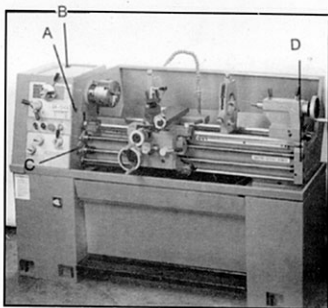
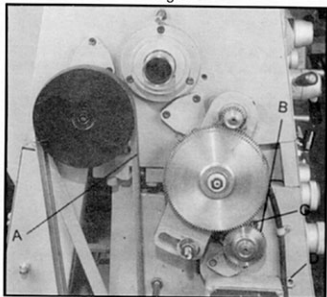

Fig.3
Fig.4
- 1. Headstock**-Oil must be up to indicator mark in oil sight glass (A, Fig.3). Top off with Shell Turbo T-68 or equivalent. Fill by pulling plug (B, Fig.3). To drain, remove drain plug (A, Fig.4) with an 8mm hex wrench. Drain oil completely and refill after the first three months of operation. Then, change oil in the headstock annually.
- 2. Gearbox Input Shaft**-Remove end gear cover and oil the gearbox input shaft where it exits the headstock bracket (B, Fig.4) with the oil can using 20W machine oil. Oil once daily.
- 3. Gearbox**-Oil must be up to indicator mark in oil sight glass (C, Fig.3). Top off with Shell Turbo T-68 or equivalent. Fill by removing plug (C, Fig.4) with an 8mm hex wrench. To drain, remove drain plug (D, Fig.4) with an 8mm hex wrench. Drain oil completely and refill after the first three months of operation. Then, change oil in the gearbox annually.
- 5. Leadscrew Feed Rod**-lubricate ball oiler (D, Fig.3) on leadscrew/feed rod bracket with 20W machine oil once daily.